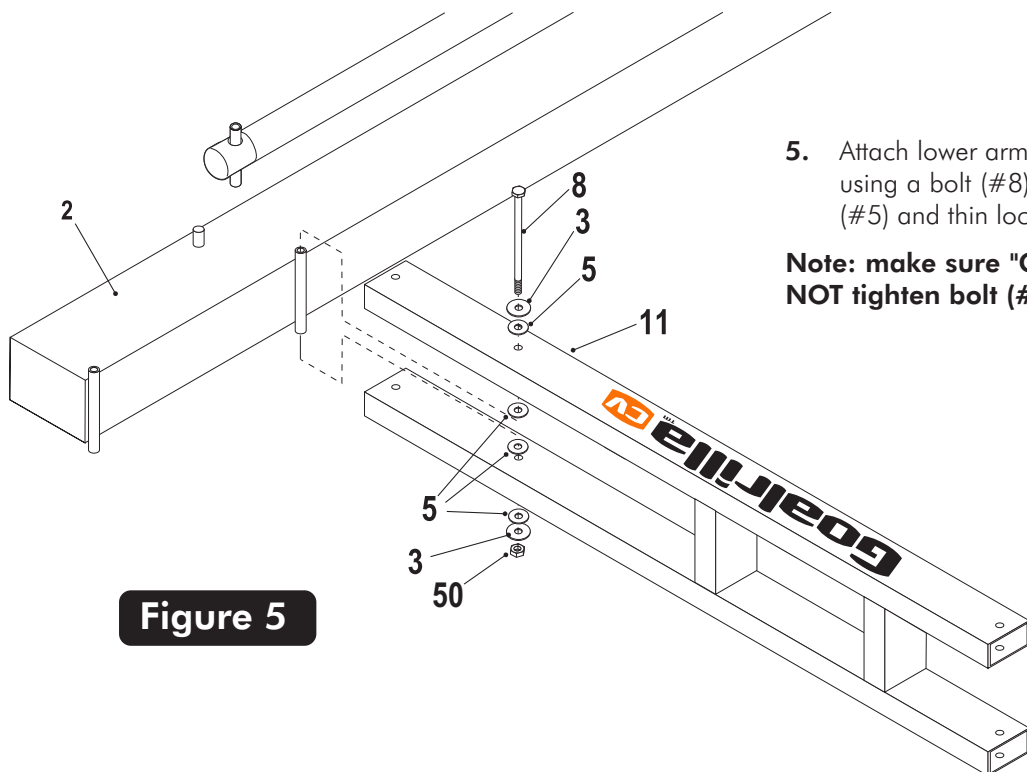

Figure 5
5. Attach lower arm (#11) to Pole (#2), as shown in Figure 5, using a bolt (#8), two flatwashers (#3), four plastic washers (#5) and thin locknut (#50).